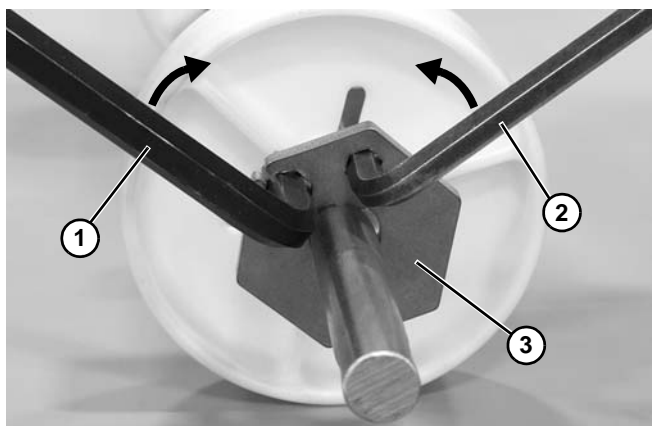

Figure 139
- a. Insert an 8 mm (Figure 139, item 1) and 6 mm (Figure 139, item 2) hex wrench into the retainer plate.
- b. Move wrenches toward each other to open the retainer plate (Figure 139, item 3) and install onto the shaft. Position retainer plate where needed.